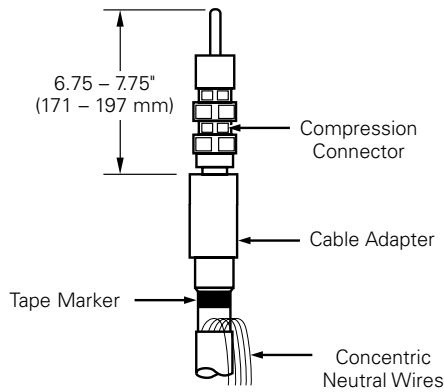

Figure 23. Line illustration for dimensional check.
- Length should be between 6.75" and 7.75" (171 - 197 mm). (Refer to Figure 23.)